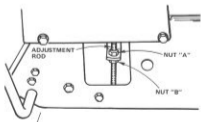

FIGURE 42
2. If adjustment is required, snap out Access Cover on L.H. side of tractor above Foot Rest (Fig. 42).
4. To lower right side of mower, loosen Nut "B" and screw Nut "A" down on Adjustment Rod (Fig. 42).